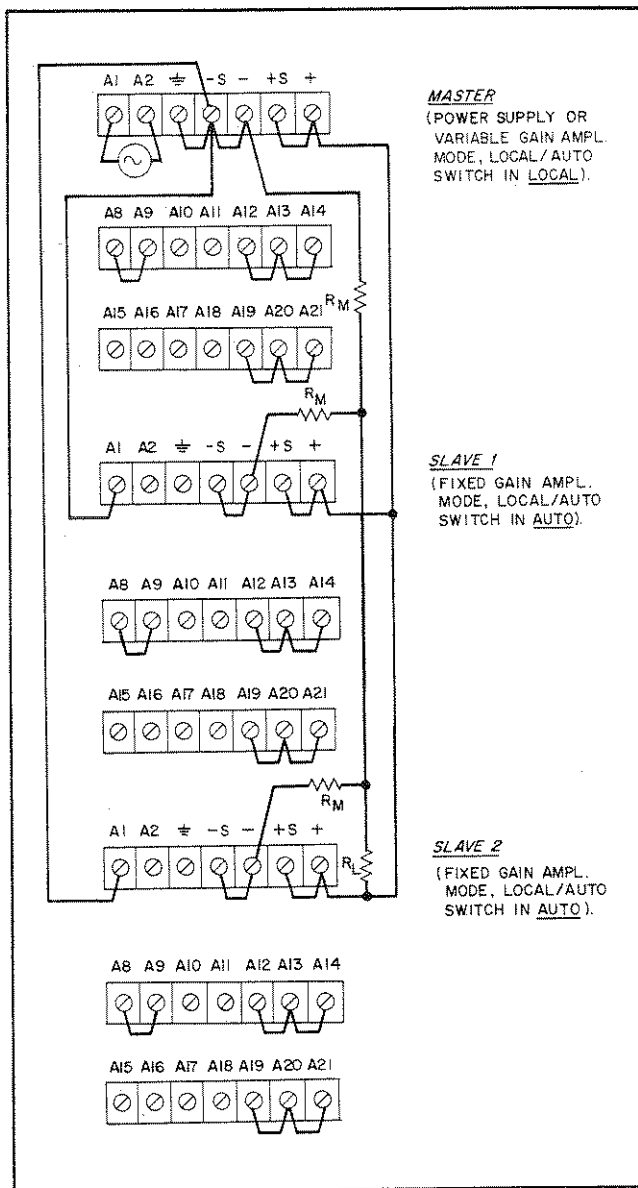

Figure 3-13. Auto-Parallel Connections, Three Units
**3-61 Auto-Parallel Operation.** Two or more BPS/A's can be connected in auto-parallel arrangement to obtain an output current greater than that available from a single supply. Figure 3-13 illustrates the auto-parallel connections for three supplies to allow increased output current in constant voltage operation. When this arrangement is used, current sharing under all load conditions is permitted under control (front panel CURRENT control or remote programming) of the master supply. Because the CURRENT controls (or remote programming) of each slave are operative, they should be set to a maximum to prevent the slave reverting to constant current operation; this could occur if the master output current setting exceeded the slave's. For equal current sharing, the leads from RM to the load and to the (-) terminals should be approximately equal in length. To maintain instrument accuracy and stability, RM should be a stable, low temperature coefficient resistor of sufficient rating to prevent any appreciable self-heating (typically 1 $\Omega$ , 8W,  $\pm 20$  ppm/oC,  $\pm 1\%$ ).